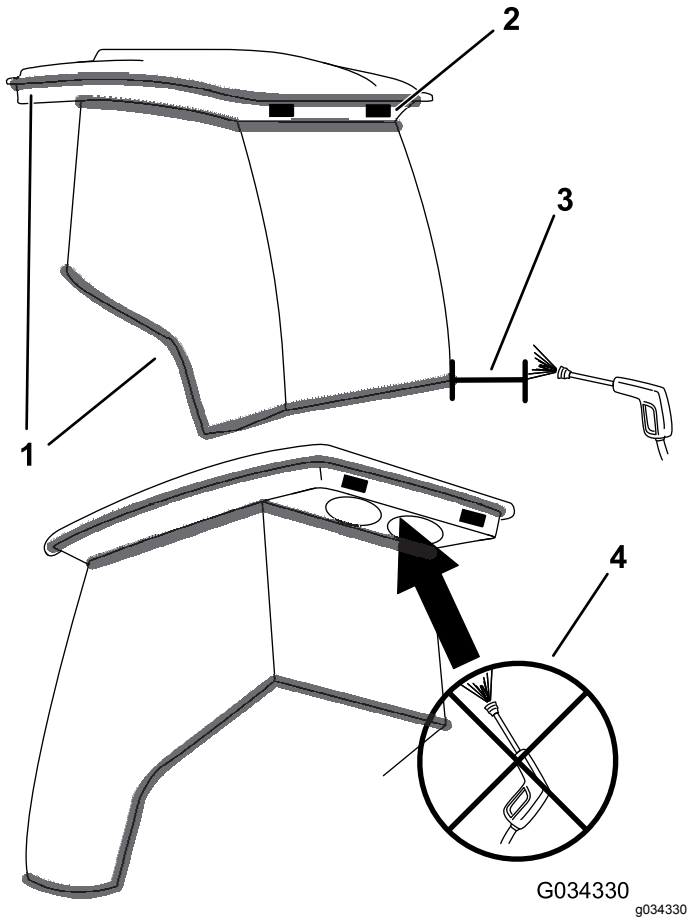

Figure 83
**Important:** Use care around the cab seals and lights (Figure 83). If you are using a pressure washer, keep the washer wand at least 0.6 m (2 ft) away from the machine. Do not use the pressure washer directly on the cab seals and lights or under the rear overhang.